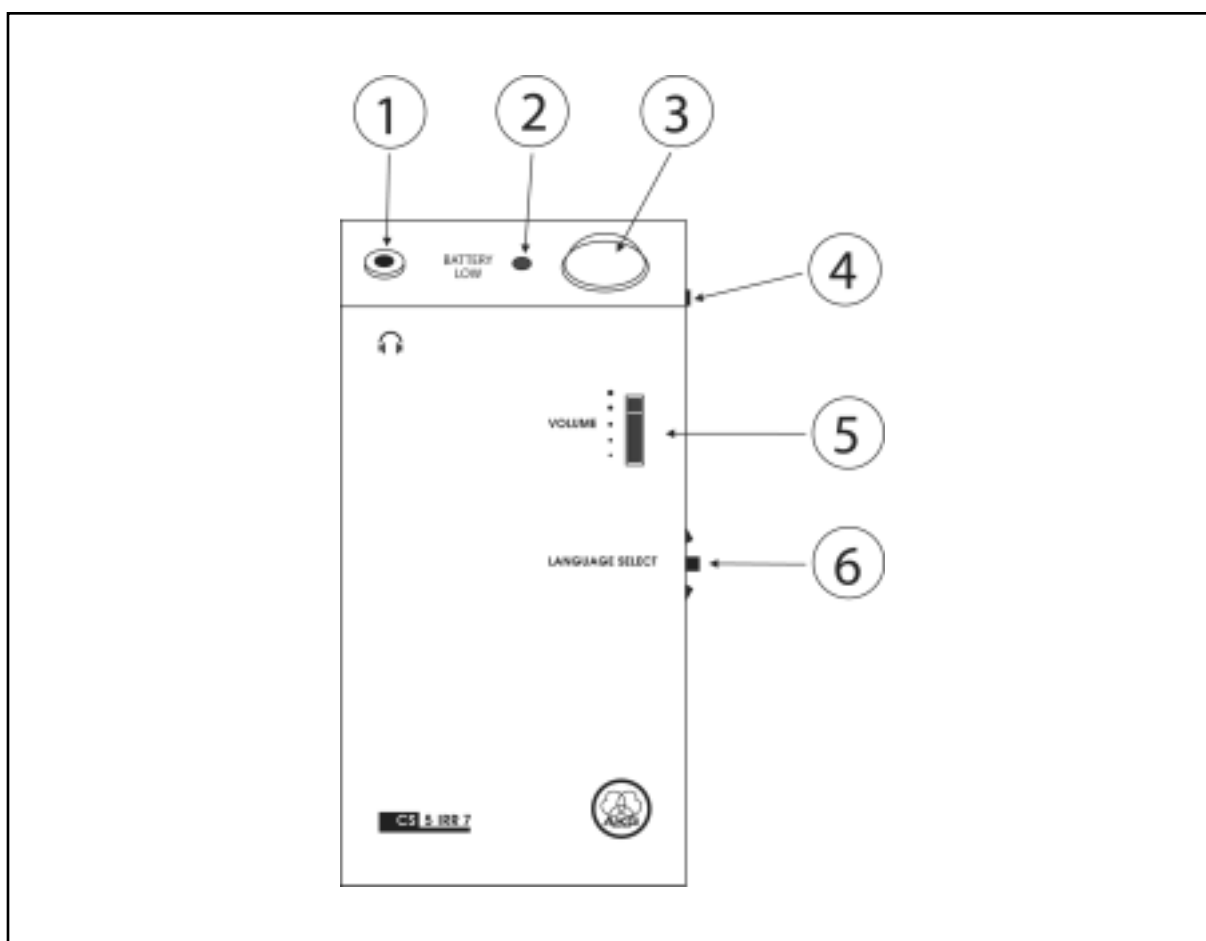

Fig. 10: Front and top panels of the CS 5 IRR 7 infrared receiver.
- Refer to fig. 10 on page 37.
1. Connect the headphones to the  jack (1). **Make sure to turn the VOLUME control (5) to its minimum position to avoid damaging your hearing by excessive sound levels.**
2. To switch power to the receiver on, press the <ON> key (2) on the receiver side panel. The BATTERY LED (3) provides the following information:
- (Refer to fig. 10 on page 37.) Never cover the collecting lens (4) above the infrared receiving diode. Covering the lens (4) will cut the signal and may cause the receiver to switch off automatically.